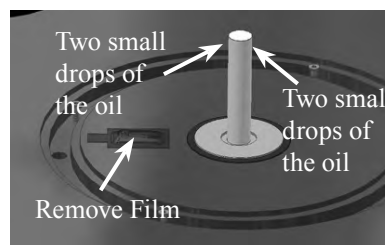

Figure 15
13. Remove the protective film from the Optical Sensor located on the Turntable Top Surface. Refer to figure 15.
16. Locate the supplied Turntable Bearing Oil and place two small drops of Oil on the top sides of the Vertical Bearing Ceramic Shaft. Refer to figure 15.